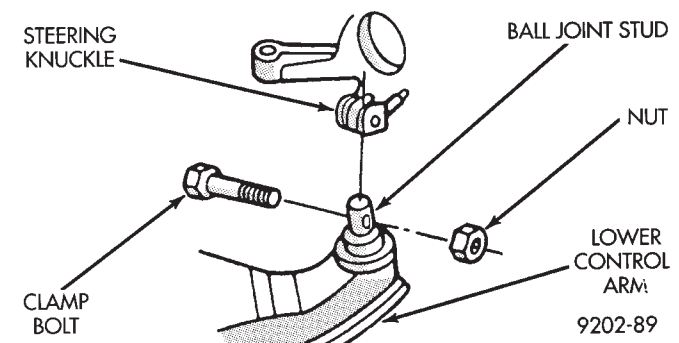

Fig. 1 Control Arm To Steering Knuckle Attachment
- (1) Raise vehicle. See Hoisting in Lubrication, Group 0 of this service manual.
- (2) Remove the ball joint stud to steering knuckle clamp nut and bolt (Fig. 1).
(4) Separate the steering knuckle from the ball joint stud (Fig. 1).
(2) Install ball joint stud into steering knuckle and install clamp bolt (Fig. 1). Tighten clamp bolt to 136